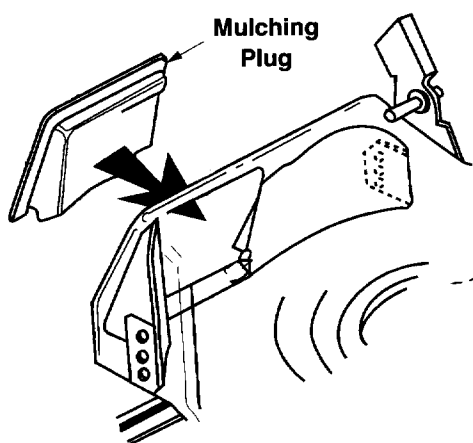

Figure 12
1. Lift the rear discharge door and install the mulching baffle. See Figure 12.